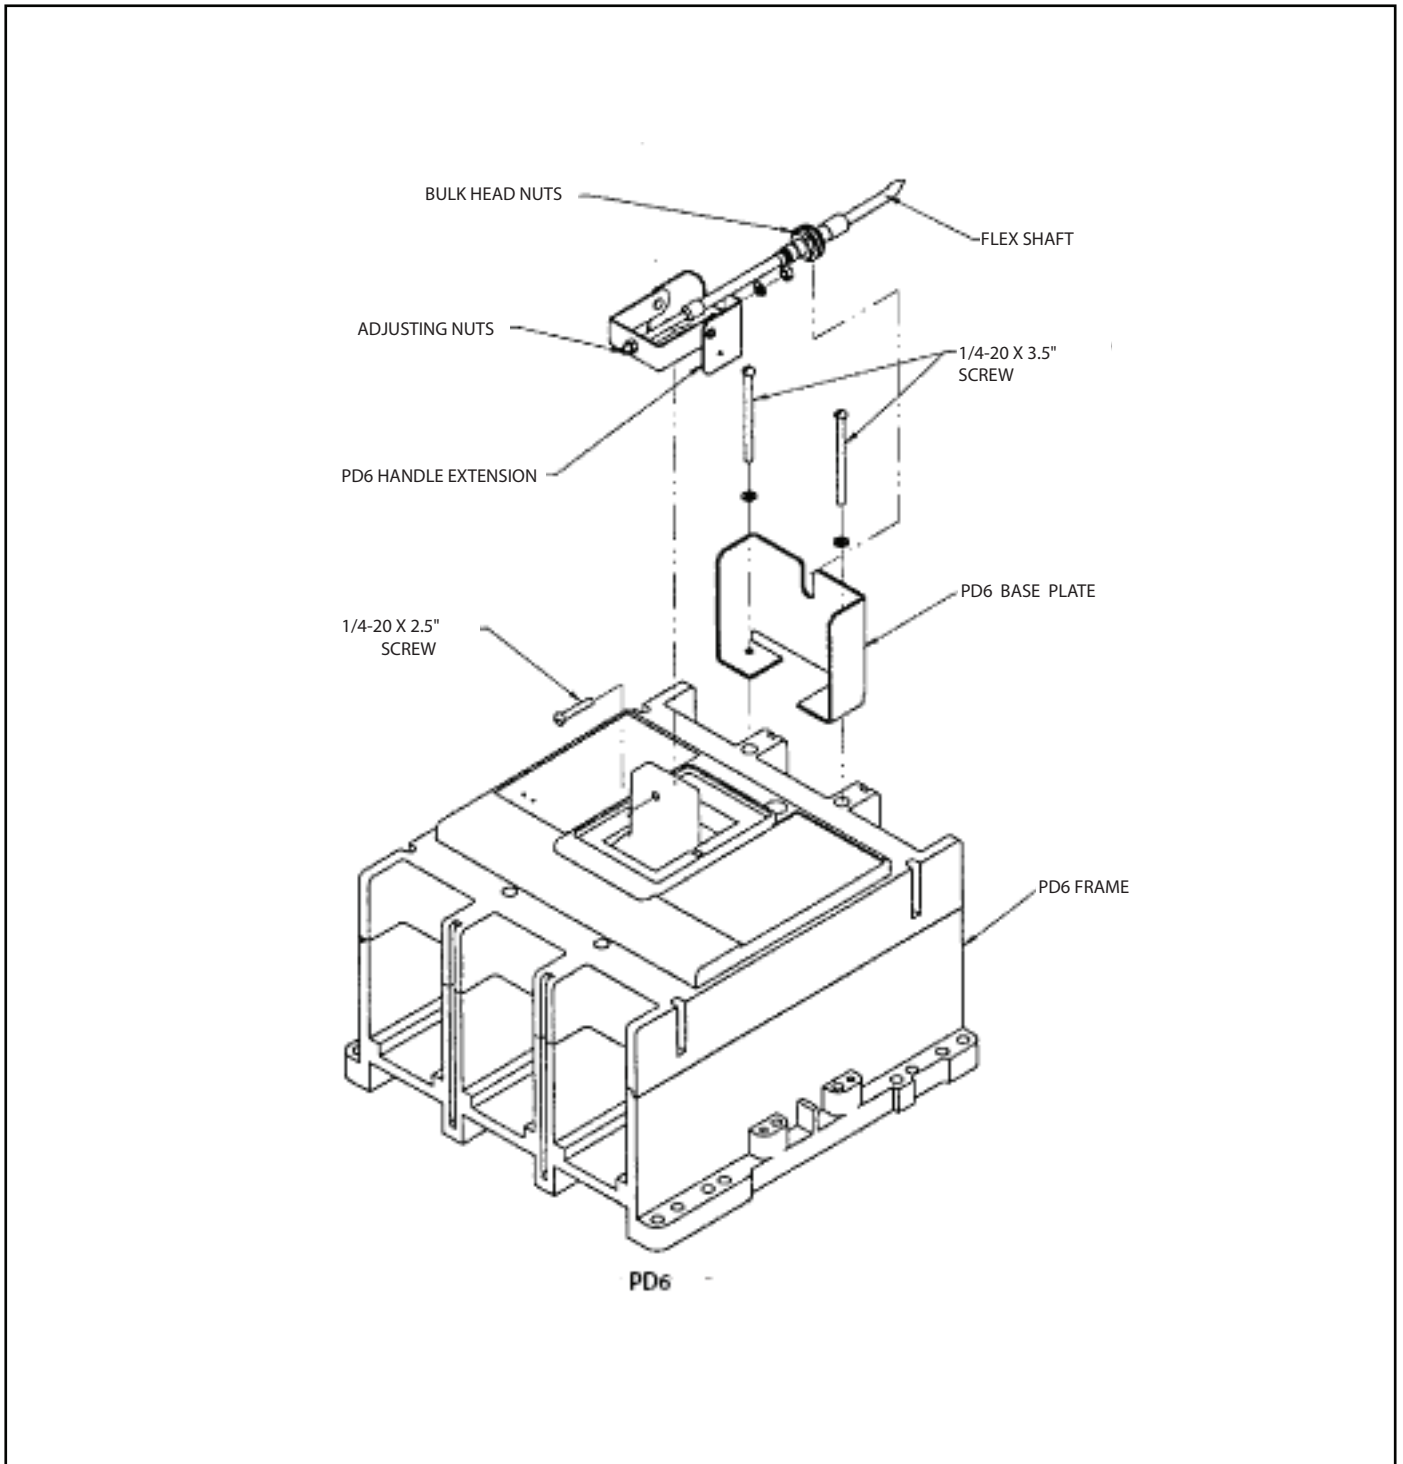

Fig. 2. PD6 Mechanism Assembly.
Attach the load end of the breaker to the enclosure using the hardware from the hardware kit. Attach the base plate to the circuit breaker using the 1/4- 20x3.75" screws and 1/4" lockwashers enclosed in the parts kit at the load end of the breaker. See Figure 2 for illustration.
6. Place the outer handle mechanism in the full **ON** position and the circuit breaker in the **ON** position. You must release cover interlock to move handle to **ON** position. Place the handle extension assembly onto the breaker handle and secure as shown on Figure 2.
8. Actuate the outer handle positions (**ON, OFF, RESET**). If minor adjustments are necessary, refer to the following adjustment checklist and Figure 2.